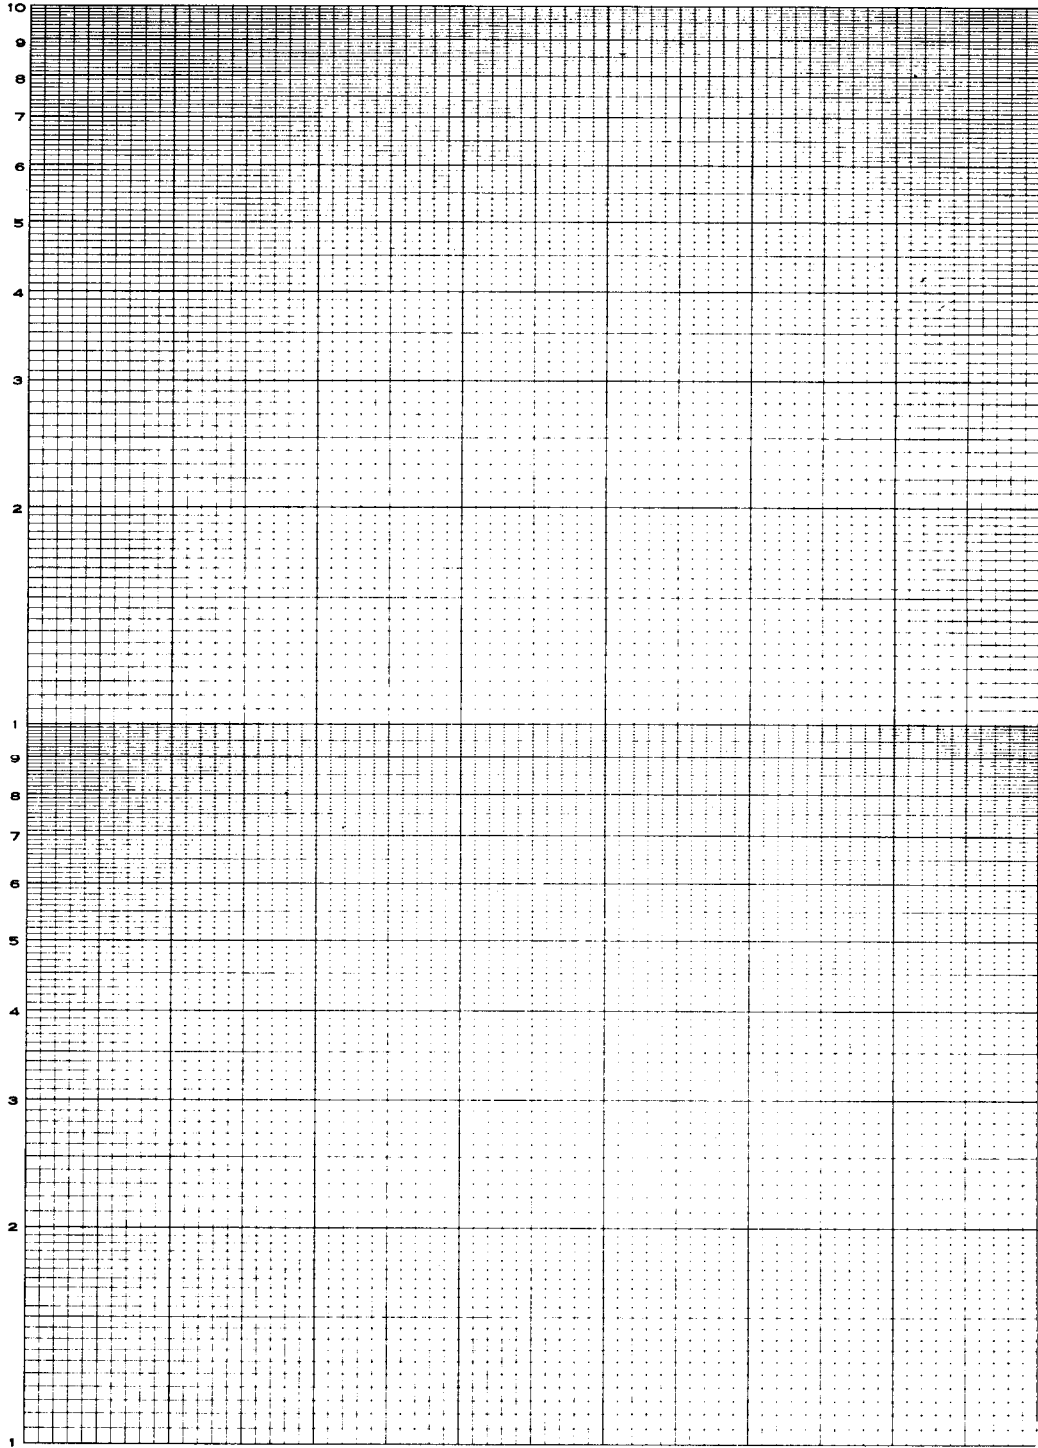

Figure 3.
Step 8. Plot the data in the sample calibration chart using 2-cycle, semilog graph paper such as shown in Figure 3. The voltage is plotted along the vertical scale and the true power along the horizontal scale. Draw a smooth curve through these points.